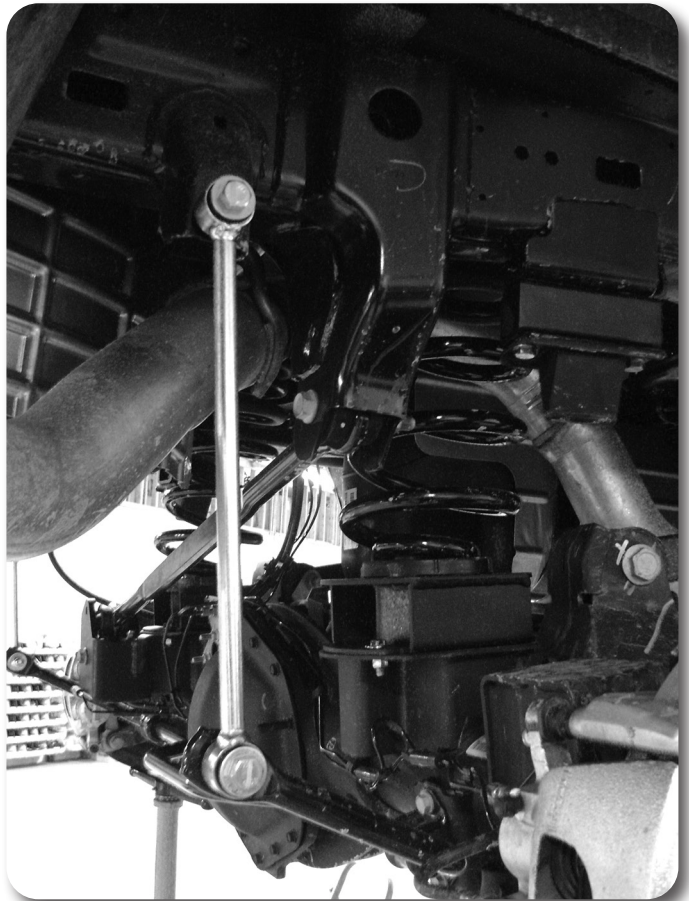

Figure 8
15. Grease bushings and sleeves and install into sway bar links. Install sway bar links with new 12mm hardware. (BP 497). Tighten to 45 ft-lbs. Fig 8